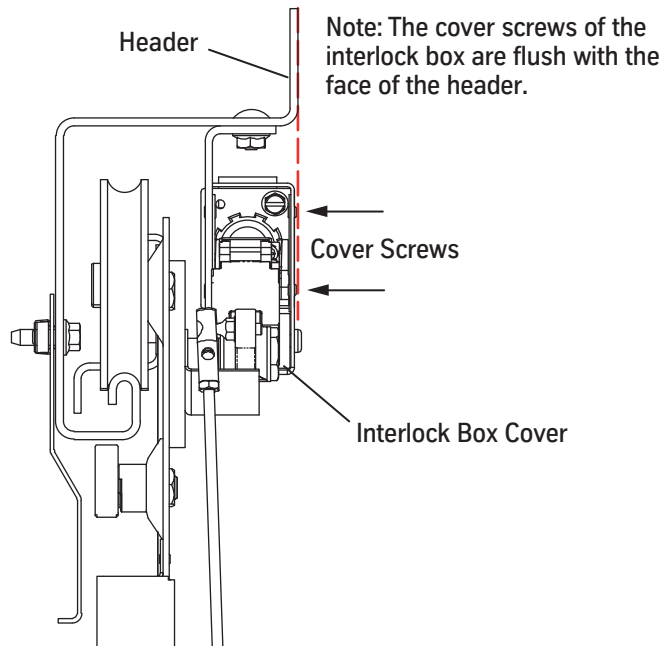

Figure 20 - Install the Door Interlock
1. Install the interlock contact box. Evenly align the cover screws with the face of the header. See Figure 20.